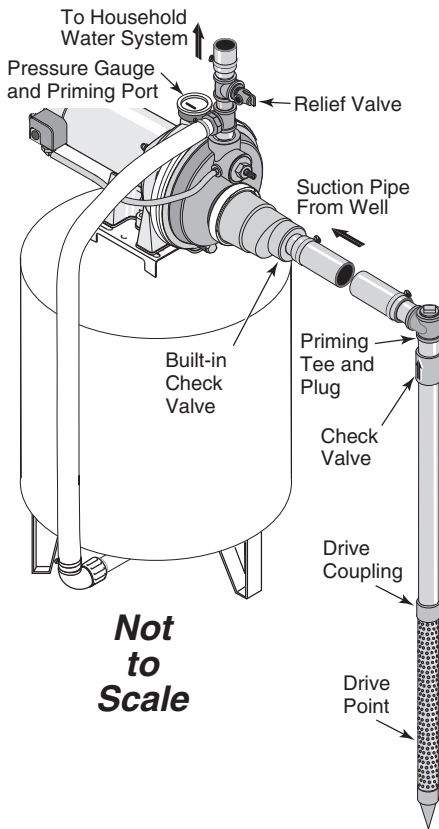

Figure 5 - Driven Point Installation
5. Use the fewest possible fittings (especially elbows) when connecting the pipe from the well point to the pump suction port. The suction pipe should be at least as large as the suction port on the pump (include a check valve – see Figure 5). Support the pipe so that there are no dips or sags in the pipe, so it doesn’t strain the pump body, and so that it slopes slightly upward from the well to the pump (high spots can cause air pockets which can air lock the pump). Seal the suction pipe joints with PTFE pipe thread sealant tape or a PTFE-based pipe joint compound approved for use on PVC. Joints must be air- and water-tight. If the suction pipe can suck air, the pump cannot pull water from the well. If one well point does not supply enough water, consider connecting two or three well points to one suction pipe.